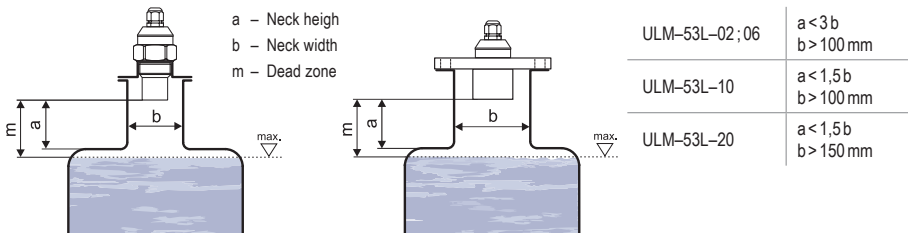

Fig. 4: Possible installation of the installation neck
- f) In case the maximum surface level in the tank interferes with the dead zone, the level meter has to be mounted into a higher installation neck. Subsequently, the tank can be filled nearly up to the maximum volume. The neck's inner surface has to be even and smooth (without edges and welded joints), the inner edge should be rounded in the position point where the ultrasonic waves leave the pipe. Choose the largest possible neck's diameter, but keep the neck's height as low as possible. Recommended dimensions of the neck are listed in Fig. 4.